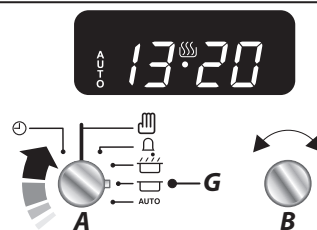

Fig. 3.5
1. Turn the **Timer (A)** knob to the **Stop Time (G)** setting. 'AUTO' will show in the display (**Fig. 3.5**).